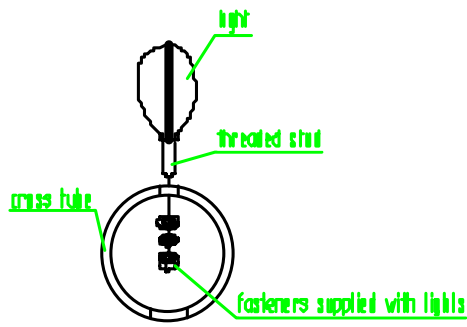

FIGURE 1
STEP 2. Cut out templates. Mark centerline of lower air dam by locating the series of small fins on backside of air dam. Lines should be 8 " long. Measure and mark a line 17 1/2 " from center line. DO NOT follow contour of air dam. Make several marks from separate measurements using the center line to creste profile. SEE FIGURE 1.
STEP 3. Align templates with air dam. The "REAR OF AIR VALANCE" line aligns with bottom rear portion of air dam and the "CENTER LINE" line aligns with the 17 1/2" marks created. Tape template to air dam and trace outline. Using desired method, cut along outline. A additional trimming or adjustment to air dam may be necessary. Replace lower air dam. SEE FIGURE 1.